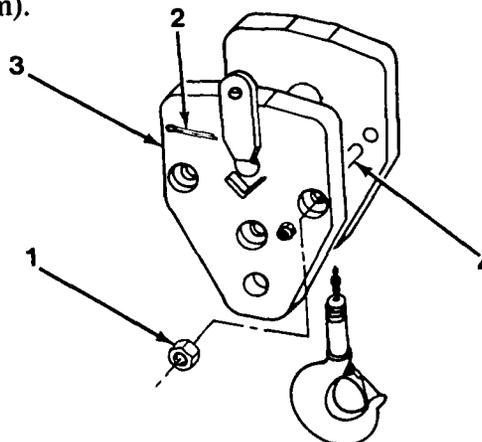

Figure 16-1
2. Install latch kit (16), grease zerk (15), trunnion (11) and thrust bearing (14) on hook (12).
3. Apply Loctite Primer T to hook (12) and lock nut (13) threads and allow to dry. Apply Loctite 271 to hook (12) threads and install lock nut (13) on hook (12). Tighten locknut (13) until the machined shoulder on hook (12) is approximately 0.12 in. (3.0 mm) away from bottom of trunnion (13). Do not pull hook (12) tight against trunnion (11).
4. Install three capscrews (18) in cable side plate (19).
5. Install trunnion (11) and hook (12) as a assembly.
6. Install bushing (10) and grease zerk (9) in sheave (8).
7. Install shaft (8), spacer (5), washer (6), sheave (7), washer (6) and spacer (5).
8. Install three tubes (4, Figure 16-1).
9. Install cable side plate (3), cotter pin (2) and three nuts (1). Torque nuts (1) to 50 lb-ft (68 N•m).